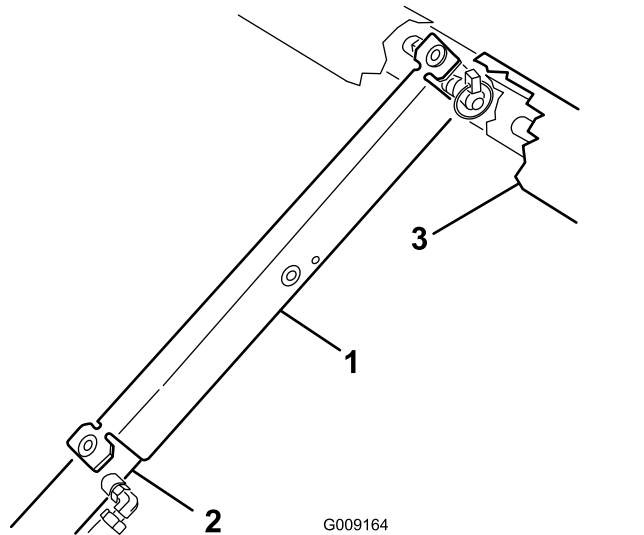

Figure 29
3. Push the bed support onto the cylinder rod, and ensure that the support-end tabs rest on the end of the cylinder barrel and cylinder-rod end (Figure 29).